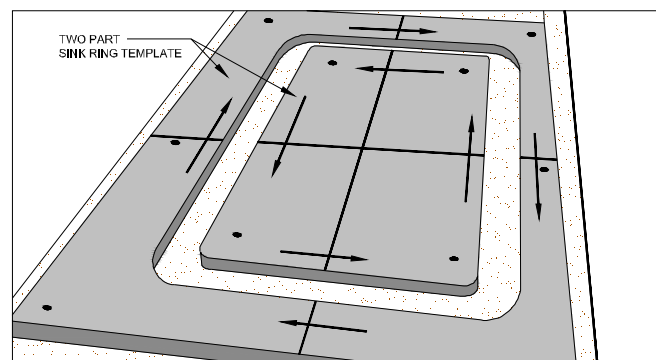

Figure 26C
- Make a two part template to route the countertop substrate. (FIG. 26C)